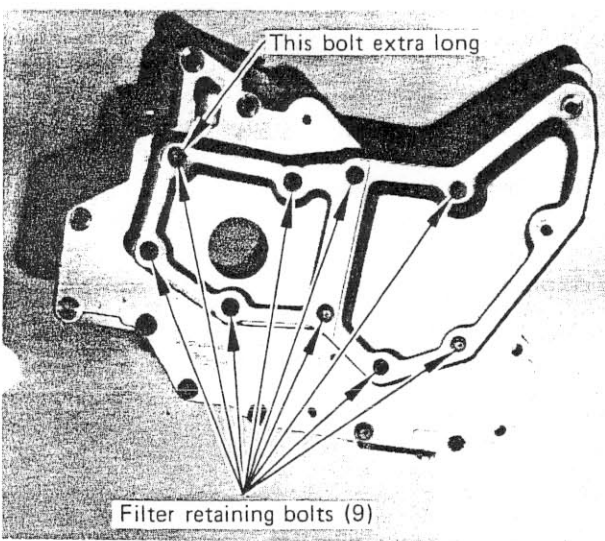

FIGURE 4
**STEP 6.** Turn the valve body over and remove the filter retaining bolts. (See Fig. 4) These are long bolts with one bolt being extra long. Remove filter and gasket.
**STEP 19.** Install new filter and gasket. (Note: Some C-6 transmissions are factory equipped with an extension tube as part of the filter. In these applications the B&M filter should not be used. The stock filter should be washed in solvent and reinstalled in the transmission.) Install eight long filter bolts and one extra-long filter bolt. (See Fig. 4) Align two large filter bolt holes with **casting** and tighten bolts to 30-45-in.lbs.